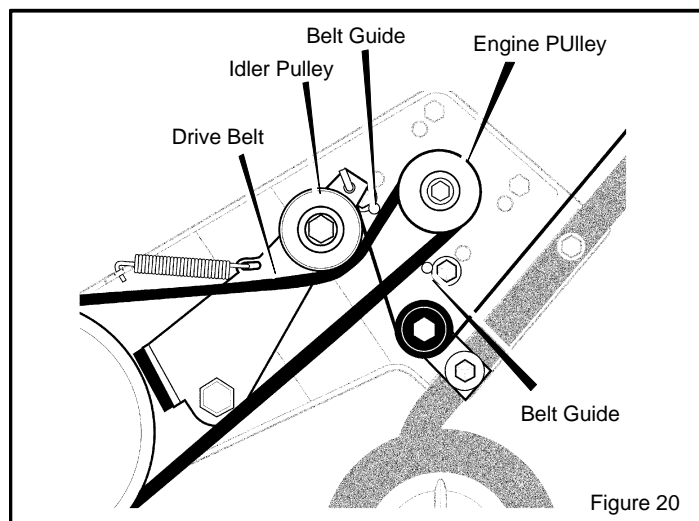
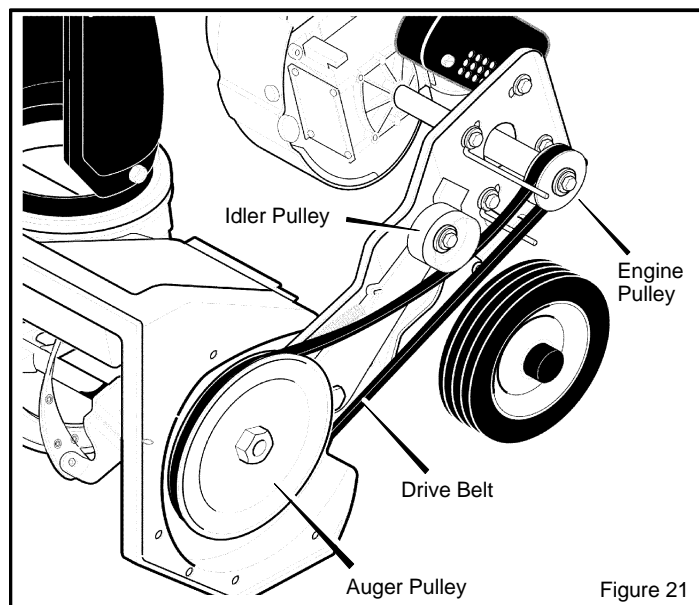

Figure 20
Figure 21
2. Remove the **drive belt** from the **idler pulley**. (See Figure 20 and Figure 21)
4. Remove the **drive belt** from the **auger pulley**. (See Figure 21)